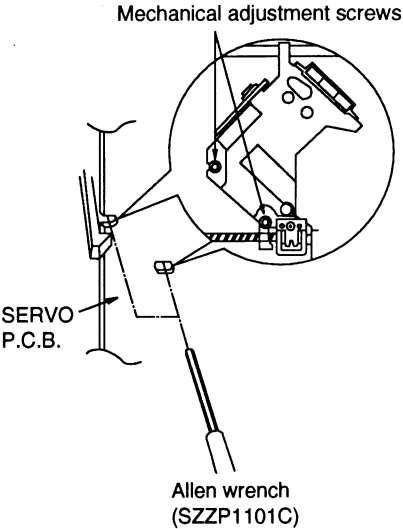

Fig.2
- Alternately adjust the two mechanical adjusting screws with the 2.0mm allen wrench (SZZP1101C) until the RF signal amplitude on the oscilloscope is maximized. (Refer to Fig. 2 on page 10)
(2) BEST EYE (PD BALANCE) AJUSTMENT
- Connect the oscilloscope's CH. 1 probe across **TJ701** (RF) (+) and **TJ702** (VREF) (-) on the Servo P.C.B.